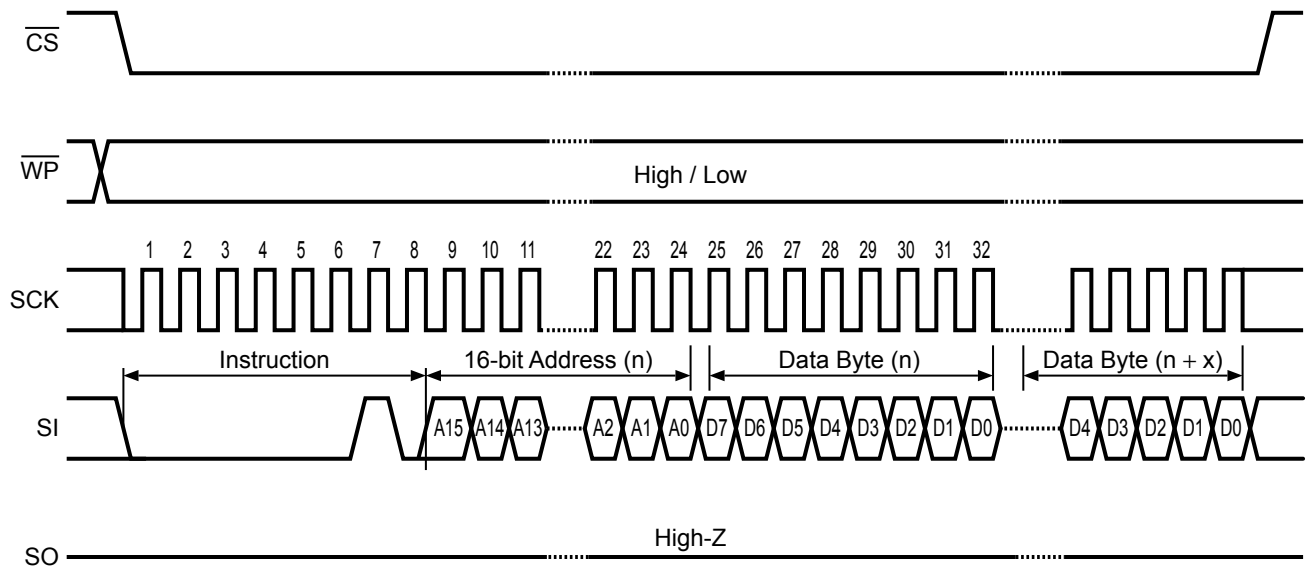

Figure 17 WRITE Operation (Page)
The S-25C512A can Page Write of 128 bytes. Its function to transmit data is as same as Byte Write basically, but it operates Page Write by receiving sequential 8-bit Write data as much data as page size has. Input the instruction code, the address and data from serial data input (SI) after inputting “L” in $\overline{CS}$, as the WRITE operation (page) shown in **Figure 17**. Input the next data while keeping $\overline{CS}$ in “L”. After that, repeat inputting data of 8-bit sequentially. At the end, by setting $\overline{CS}$ to “H”, the WRITE operation starts (t_{PR}).